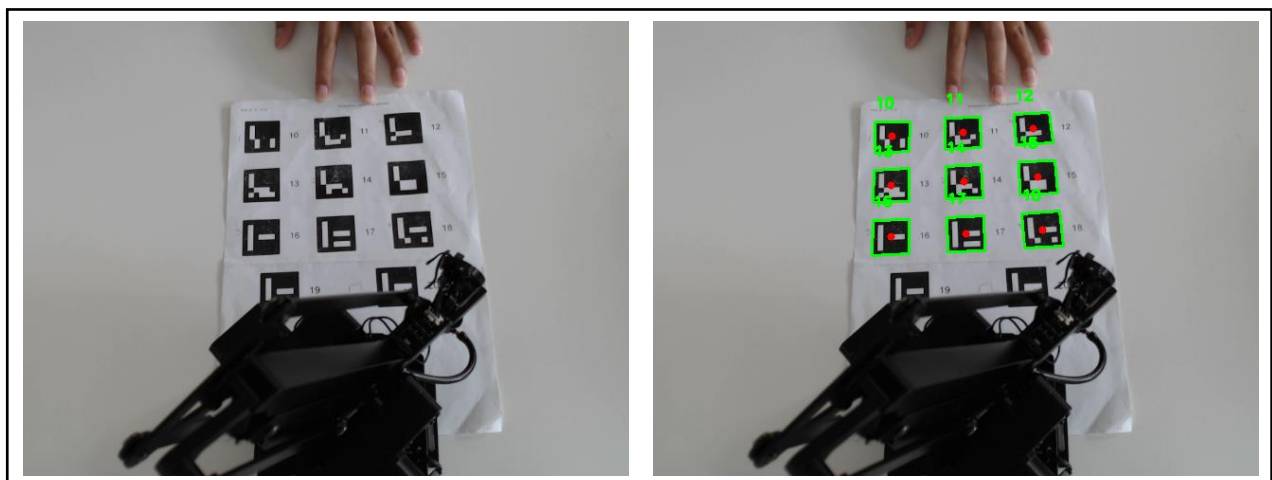

Figure 10. Marker Recognitions
11. You can see in Figure 10 that the application can detect all the markers in the ArUco board, which means that we have already finished the camera calibration step.